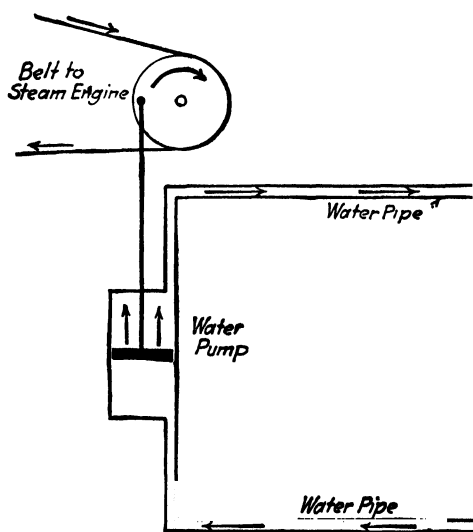

FIG. 1-30. Alternating-current water pump.
**Hydraulic Alternating Current.** But if the rotary pump is replaced with a reciprocating pump, like the one shown in Fig. 1-30, the current
will not flow in one direction continuously; instead the current of water will first flow in one direction, and then as the piston moves in the opposite direction, the water will also flow in the opposite direction. From Fig. 1-30, it can be seen that when the piston is moving upward the flow of water will be as shown by the arrows in the pipe circuit, and when the piston moves downward the direction of the flow of water will have to reverse. It is to be noted that in such an arrangement the engine still keeps on revolving in one direction as before. The pump, however, being of a different type, causes the current to flow in one direction for a short time and then reverses it and makes it flow in the other direction for a short time. This changing of direction continues all the time. A current that flows first in one direction in a pipe and then in the other direction is said to alternate in direction and is called an "alternating current."
**Sixty-cycle Alternating Current.** It is indeed interesting to know that almost all (about 95 per cent) the electricity generated in the world is of the alternating-current type. That is to say, more than nine-tenths of all the electricity generated and consumed flows first in one direction in the wires and then in the other direction, just as the water does in Fig. 1-30, and most of this alternating current is 60-cycle alternating current. The currents in the house lamp, the toaster, the kitchen range, and the fan motor all flow for a very short time in one direction around the circuit and then quickly change and flow in the other direction. This continues all the time and at a very high rate. Indeed, these reversals generally take place at the rate of 120 per second or 7,200 per minute, making the frequency 60 per second or 3,600 per minute. This is so fast that one cannot notice any flicker in the light of the house lamp at all. Such currents are, therefore, known as "60-cycle alternating currents."